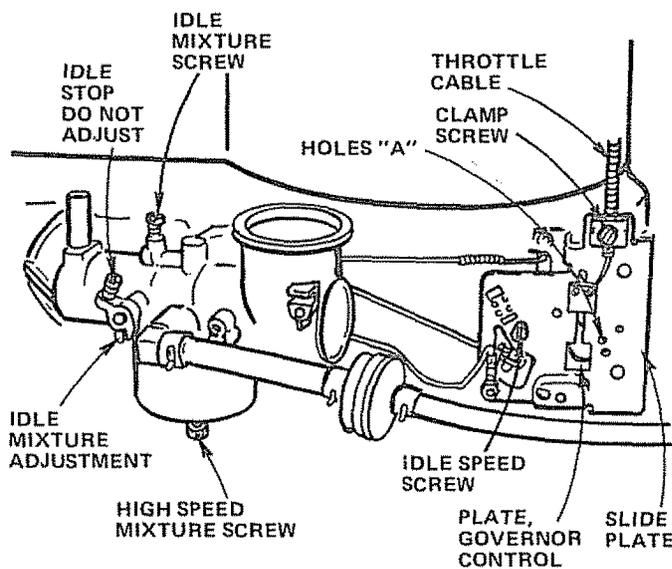

FIGURE 31
CARBURETOR ADJUSTMENT (FIG. 31)
- Turn High Speed Mixture Screw clockwise (↻) closing finger tight ONLY, and then turn counterclockwise (↺) 1 - 1/2 turns (Fig. 31).
HARD TO START Choked improperly, flooded Engine Clogged Fuel System Dirty Air Cleaner Spark Plug dirty or improper gap Defective Battery Defective Ignition or loose wiring Water in gasoline or old fuel Improper Carburetor adjustment	Place Throttle Control in "FAST" position (Fig. 10) and run starter several times to clear out gas Remove and clean Tank and lines. Replace Fuel Filter Remove and clean (Fig. 28) Clean, adjust gap or replace (Fig. 30) Recharge or replace Check the wiring and Spark Plug Drain Fuel Tank and Carburetor, use fresh fuel and replace Spark Plug Make necessary adjustments (Fig. 31)
ENGINE MISSES OR LACKS POWER Engine overload Clogged Fuel Tank or Fuel Filter Partially plugged Air Cleaner Improper Carburetor adjustment Dirty Engine Air Screen Low oil level or dirty oil Spark Plug dirty, improper gap or wrong type Faulty ignition Poor compression Oil in gasoline	Shift to a lower gear (Fig. 24) or reduce load Remove and clean Tank; replace Fuel Filter Remove and clean (Fig. 28) Make necessary adjustments (Fig. 31) Clean Air Screen (Fig. 25) Add or change oil (page 14) Replace Spark Plug (Fig. 30) Check Spark Plug and for loose wires Major Engine overhaul Drain Gas Tank and Carburetor and refill
ENGINE OVERHEATS Dirty Air Screen Low oil level or dirty oil Dirty Engine Partially plugged Muffler Partially plugged Air Cleaner Stale fuel or improper Carburetor adjustment	Clean Air Screen (Fig. 25) Add or change oil (page 14) Clean Engine Cooling Fins (page 16) Remove and clean Muffler or replace Remove and clean (Fig. 28) Use fresh fuel and adjust Carburetor (Fig. 31)